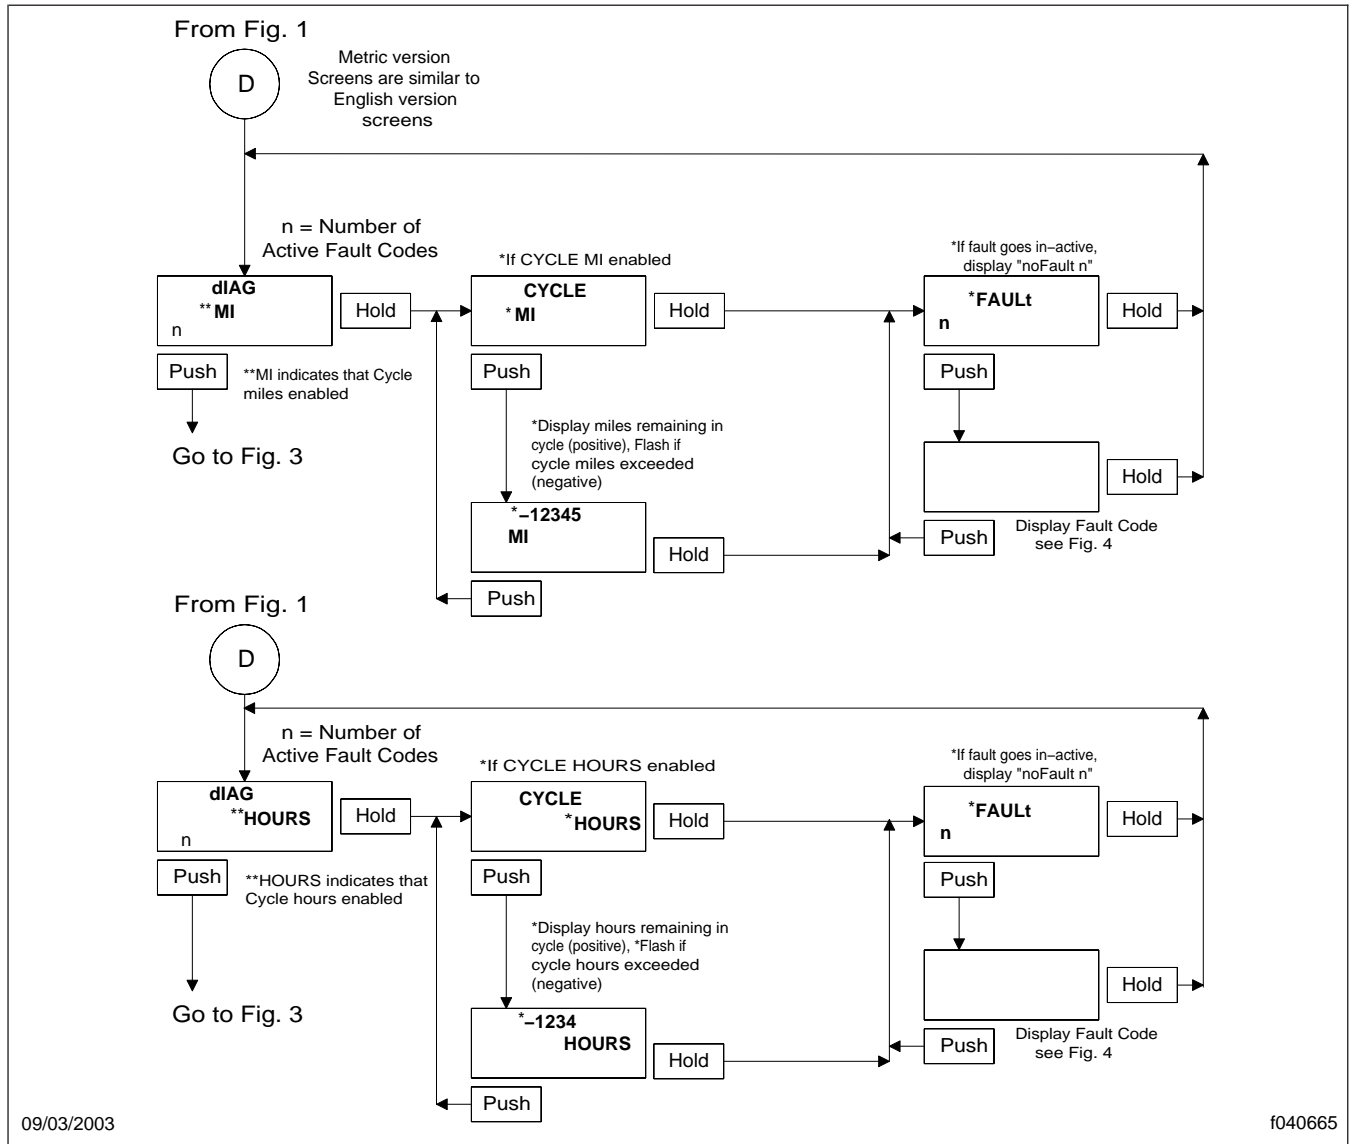

Fig. 5, Mode/Reset Switch Service Screens
- See **Fig. 5** for Mode/Reset Switch Service Screens.